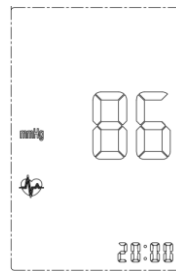

Fig 12
- 4) When the device detects a pulse, the heart symbol will flash as shown on fig 12. The